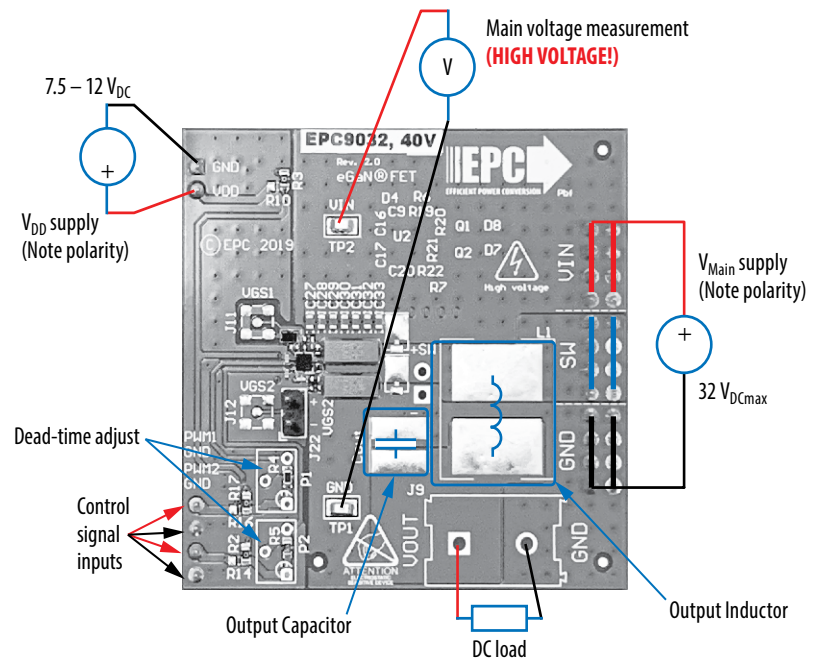
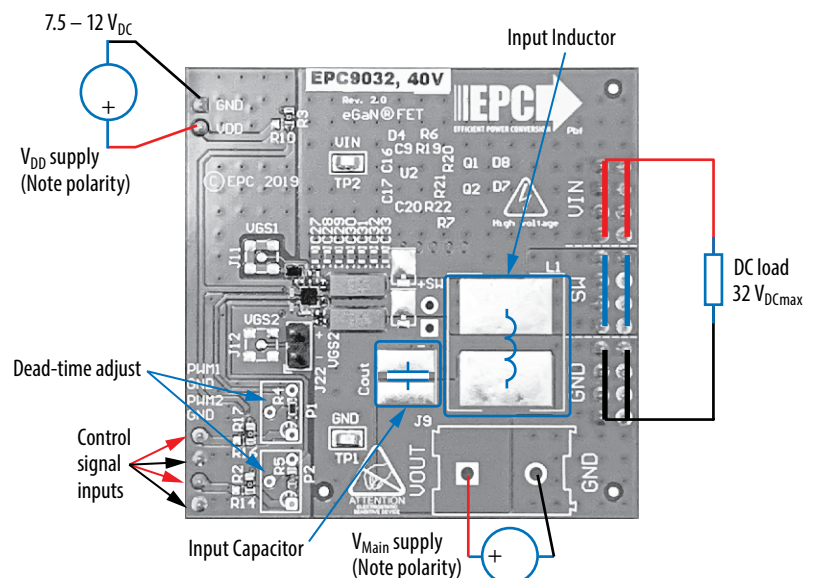

Figure 2: Buck configuration
Figure 3: Boost configuration
The half bridge development board EPC9032 is easy to set up as buck or boost converter. Refer to figure 2 for buck converter configuration and measurement setup, and figure 3 for boost converter setup, and follow the procedure below:
2. With power off, connect the switch node (SW) of the half bridge to your circuit as required (half bridge configuration). Or use the provided pads for inductor (L_1) and output capacitors (C_{OUT}), as shown in figure 2 with a DC load connected across V_{OUT} and GND.
1. The inductor (L_1) and input capacitors (labeled as C_{out}) can either be soldered onto the board, as shown in figure 3, or provided off board. Anti-parallel diodes can also be installed using the additional pads on the right side of the EPC2024 FETs.